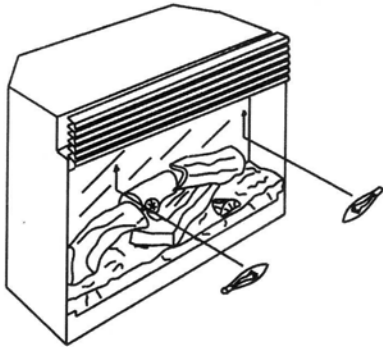

FIGURE 14
1. Examine the bulbs to determine if they need replacing. (FIGURE 14)